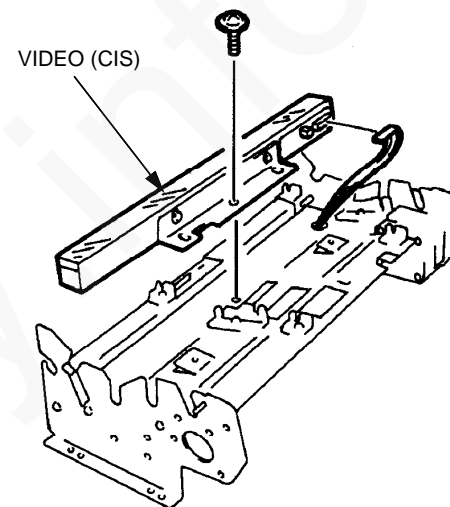

Figure 3. Video (CIS)
6. Disconnect the connector from the Video (CIS) (figure 3).